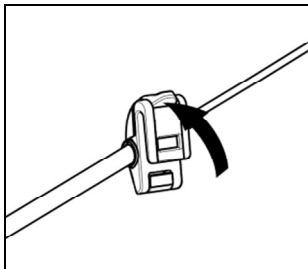

Fig. 15
- Open the clip positioned on the microphone boom, operating as indicated in Fig. 15.